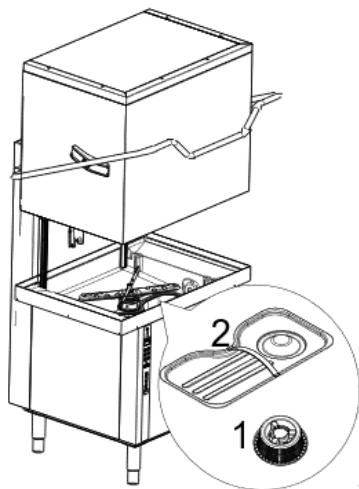

Figure 16 Filters and overflow
In versions with supplementary filtering system (FS), make sure the pump suction filter "1", the tank filter "2", the flat filter "3" and the basket filter "4" are correctly fitted ("A" - Figure 16).
In versions without supplementary filtering system (FS), make sure the pump suction filter "1", the overflow "2" and the flat filter "3" are correctly fitted ("B" - Figure 16).